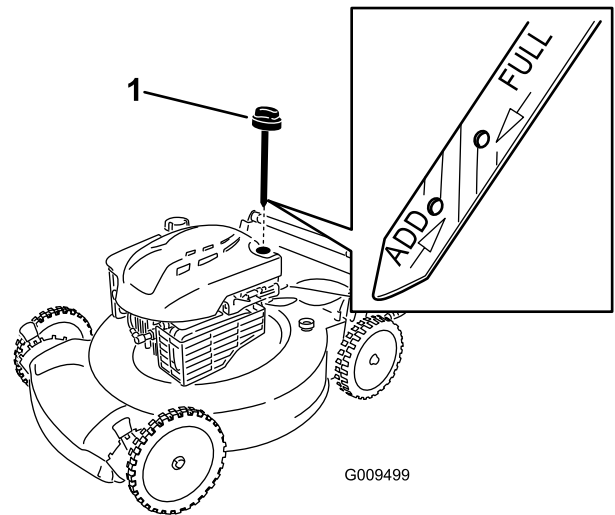

Figure 27
3. Remove the dipstick (Figure 27).
10. Read the oil level on the dipstick (Figure 27).